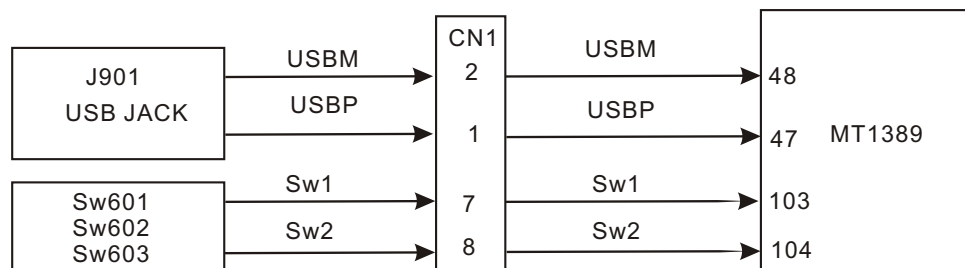

Figure 3.1.4.1 USB/KEY circuit diagram
1. USB/KEY circuit is shown as in the following figure 3.1.4.1: